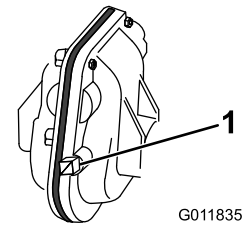

Figure 9
1. With the snowthrower lowered and on a level surface, remove the pipe plug from the auger gear box (Figure 9) by placing the open end of a 3/8 in. drive socket extension over the plug and using a 3/8 in. open end wrench on the square end of the extension.